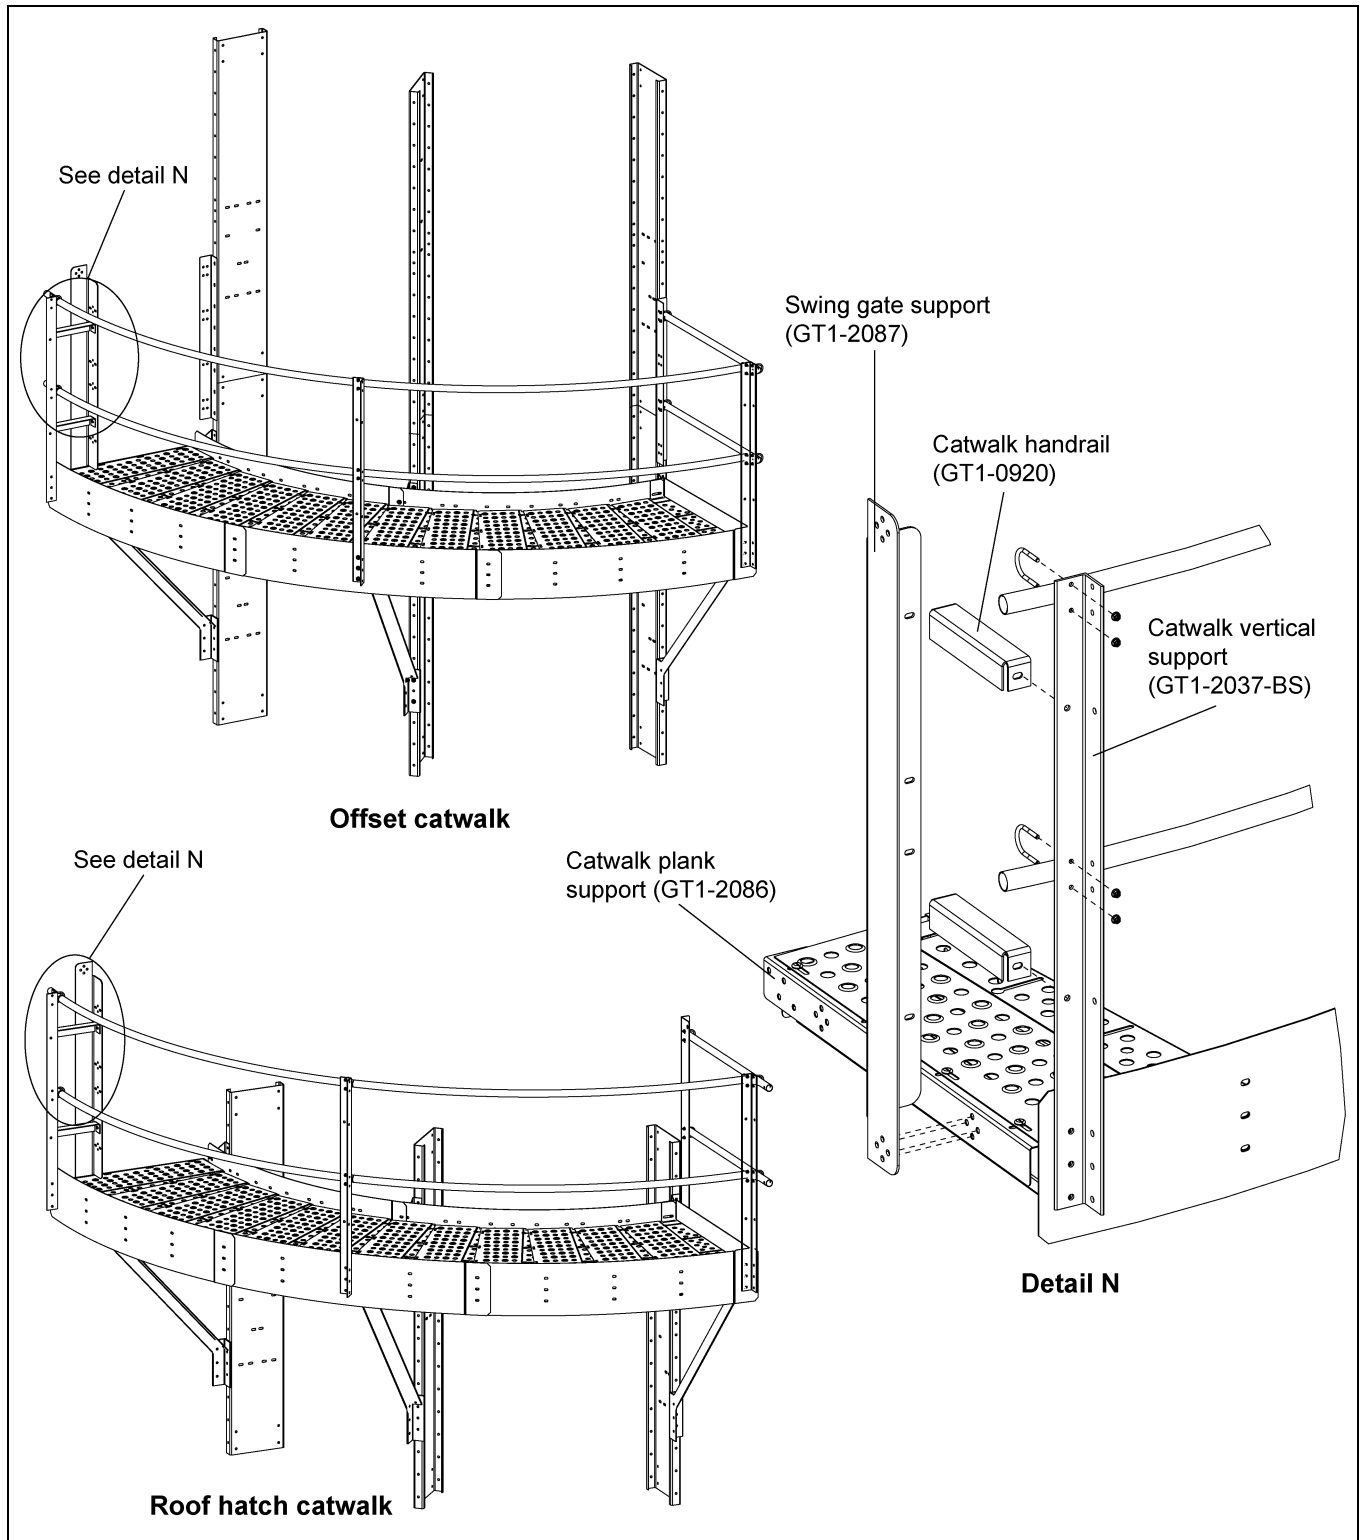

Figure 6X Installing Safety Gate (GT4-1455) to Offset and Roof Hatch Catwalks
2. Install two (2) catwalk handrails (GT1-0920) between the swing gate support (GT1-2087) and catwalk vertical support (GT1-2037-BS). (See Figure 6X.)